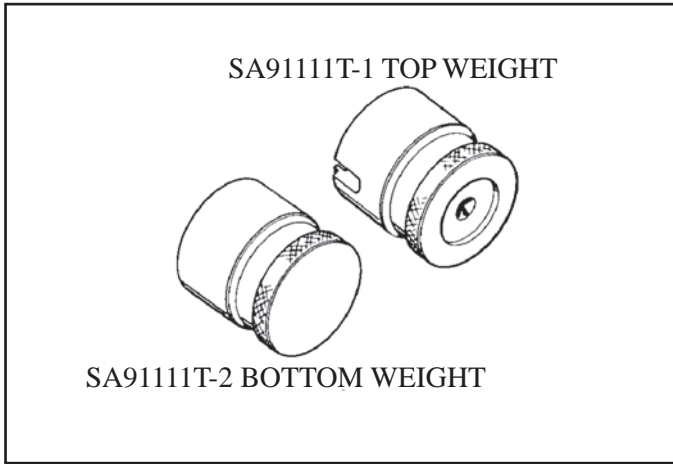
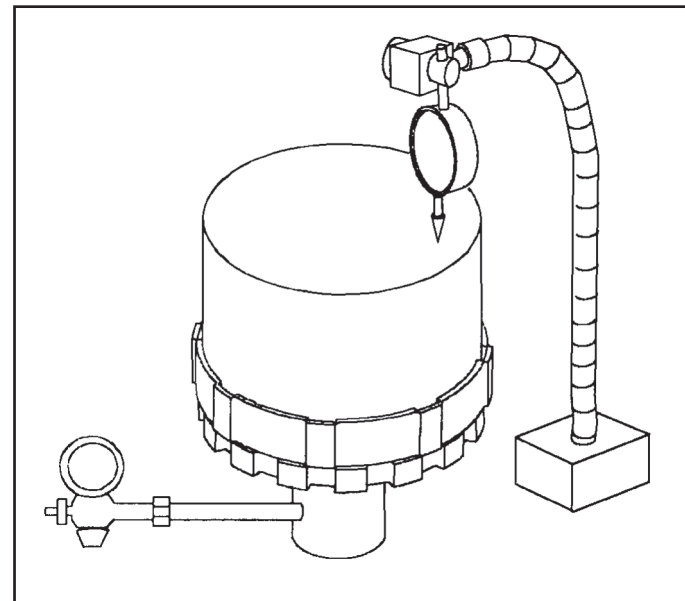

Figure 119
Figure 121
2. Place both weights (See Figure 119) onto the clutch backing plate as shown in Figure 121. Both weights must be used in order to achieve an accurate reading.
4. Position a dial indicator with the tip resting on the top of the weight (See Figure 121).